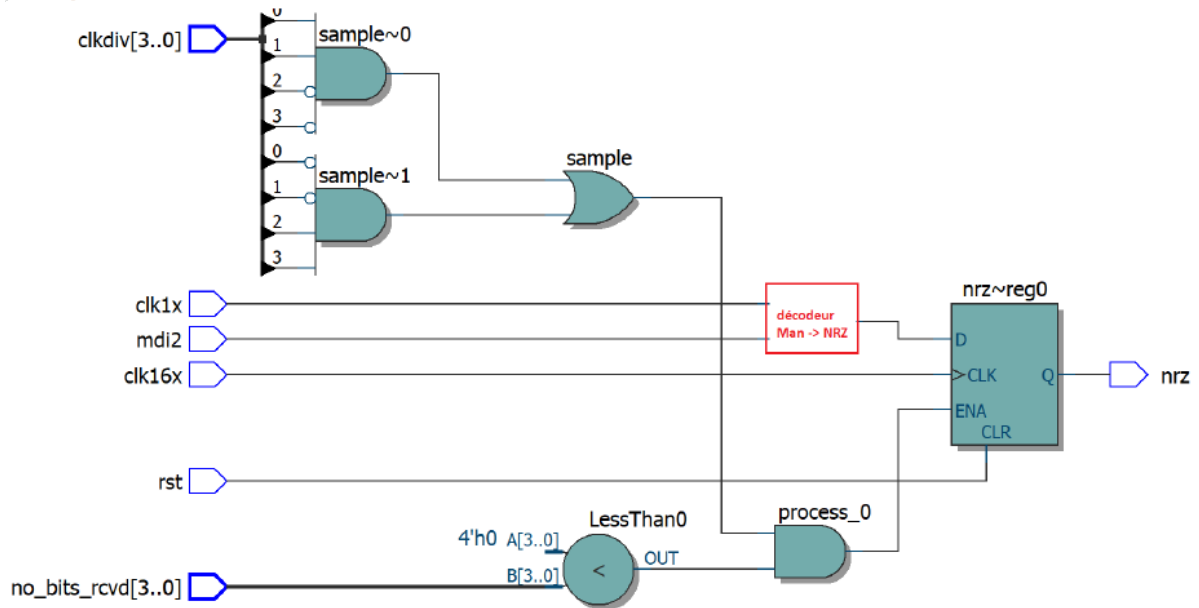

Figure 8: RTL of Manchester to NRZ decoder
The purpose of this part is to decode the data received, encoded in Manchester, into a single-pole NRZ signal. The figure 8 shows the corresponding RTL level.
- 4- Propose a simple combinatorial expression to replace the red block in figure 8.